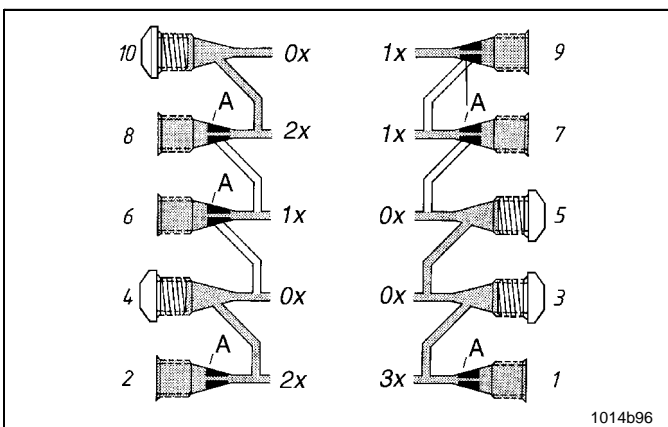

Fig. 29 Single, double and triple lubricant output
- As shown in Fig. 29, outlet borehole 10 has been closed. The lubricant quantity supplied by this outlet flows out of the metering device via outlet 8.
- If a triple quantity is needed (at outlet 1), close the outlet borehole located above the discharge borehole. Refer to outlets 3 and 5 on Fig. 29.